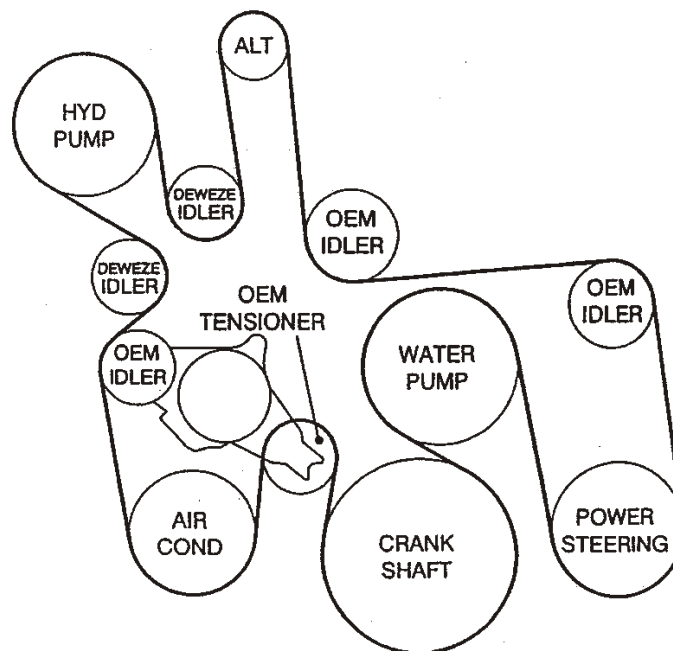

FIGURE 7. FORD 6.0L DIESEL CLUTCH PUMP KIT
6. Loosen the battery hold down clamps and slide the battery out toward the fender. Tighten the hold down clamps. Tie the air conditioner line to the positive battery cable running down the rear of the battery. See figure 7.
7. Slip the small hose insulation sheath (15) over the pressure hose. Slip the large hose insulation sheath (16) over the suction hose. Place the sheaths where the hoses run close to the exhaust to protect the hoses from the heat. Route the hoses back to the firewall and down running them outside the frame.
8. Mount pump (4) onto bracket (1) with the two 3/8 x 1 1/4 bolts (9) with two 3/8 flat washers (10). Install the adapter into the inlet and outlet ports in back of the pump. Connect the hoses to the pump. Mount the bracket onto the engine with the four M10 x 45 bolts (7). Reattach OEM tensioner with the OEM bolts.
9. Mount the DewEze electrical module bracket (2) onto the front of the pump bracket at location G with the two 1/4 x 3/4 bolts (11). Attach the electrical module (14) to its bracket with two 1/4 x 1 bolts (12) and two 1/4 nuts.(13)
10. Mount the 3" diameter slotted-face idler pulley (6) to the boss on the pump bracket at location F with an M10 x 40 Torx head shoulder bolt (8). Mount the 2.50" diameter smooth-faced idler (18) to the boss at location E with an M10 x 40 Torx head shoulder bolt.(8)
12. Install the belt as (19) shown in the diagram (Fig. 7). Release the lock on the tensioner to tighten the belt.
13. Slit the 4" long hose (17) lengthwise in one wall if it is not already slit. Slip the hose over the top of the pump bracket. Install the DewEze intercooler tube (3) into the same location as the OEM tube was. It may be necessary to loosen the hose clamp on the rubber elbow on the turbo (location H) so the elbow can be rotated to line up with the intercooler tube. Secure the tube with the OEM hose clamps.
14. Hold the deflector shield in place on top of the fan shroud before snapping into place, noting where it contacts the intercooler tube or the clutch pulley. Trim away that portion of the shield. Snap the shield into place making sure it does not make contact. See figure 7.